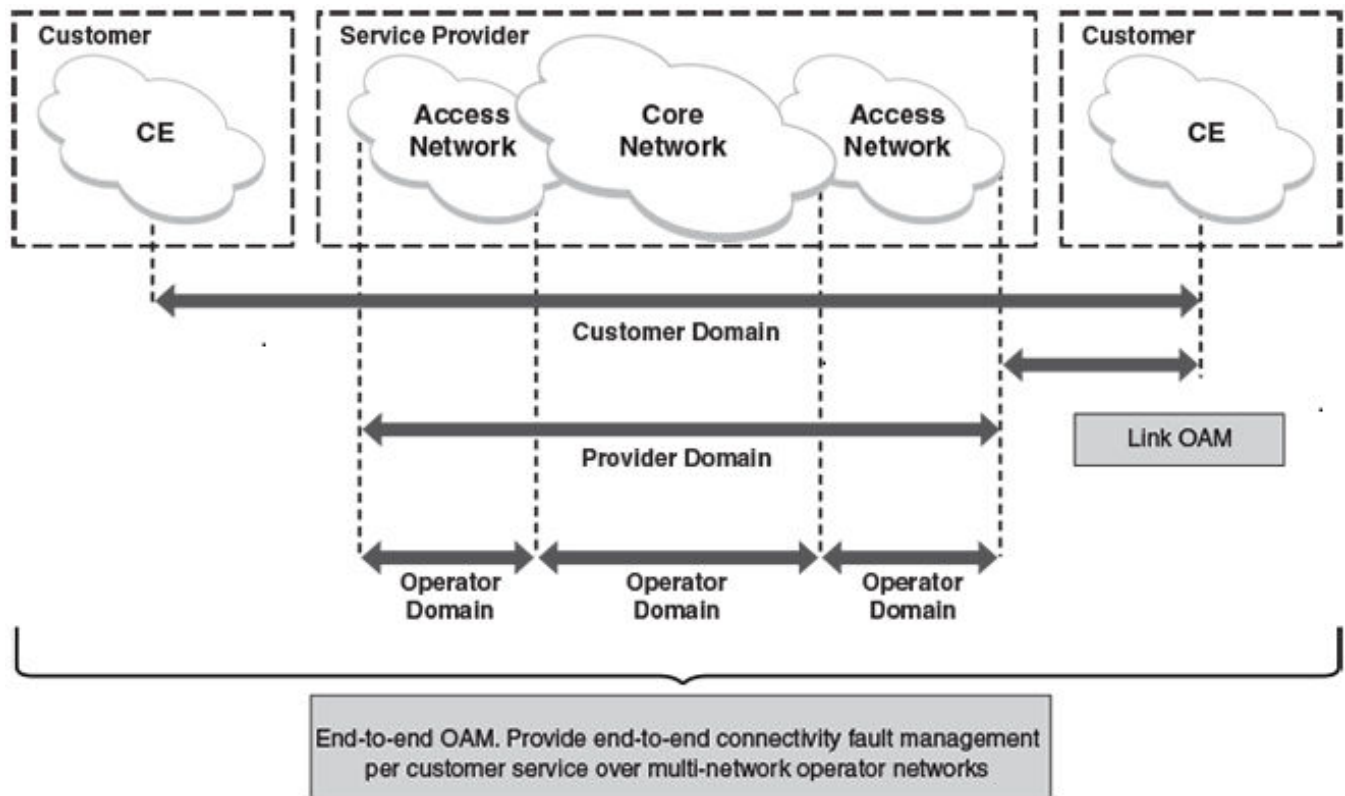

Figure 3: OAM Ethernet tools
A Maintenance Domain (MD) is part of a network controlled by a single operator. Figure 3 on page 14, shows the customer domain, provider domain and operator domain.
The Maintenance Domain levels (MD level) are carried on all CFM frames to identify different domains. For example, in Figure 3 on page 14, some bridges belong to multiple domains. Each domain associates a MD level.